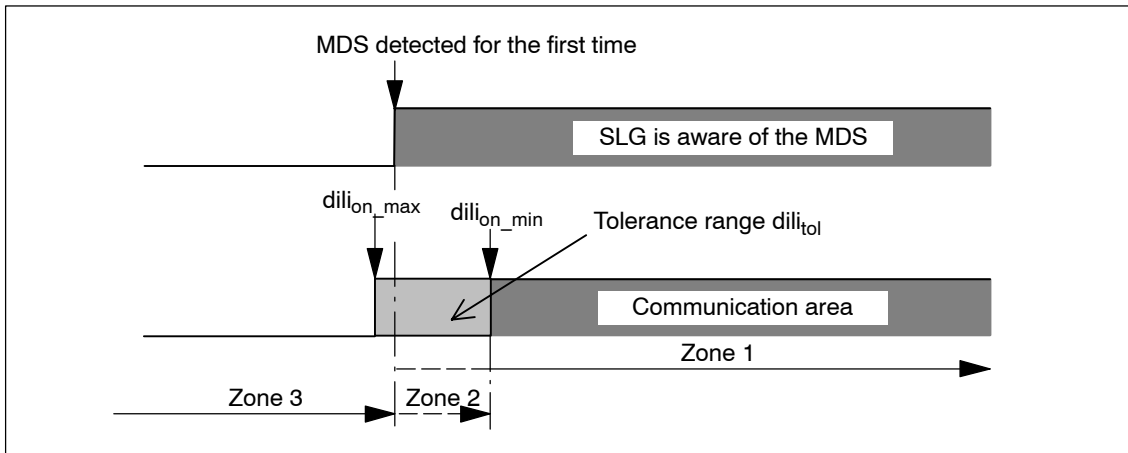

Figure 3-5 Entry into zone 1 (within the tolerance range of the range limit  $dilli_{tol}$ )
- b) The MDS enters the SLG's field within the tolerance range of the range limit and is recognized for the first time in the tolerance range. This means that when the MDS enters the SLG's field the range limit overlaps with the tolerance range of the field (see Figure 3-5).